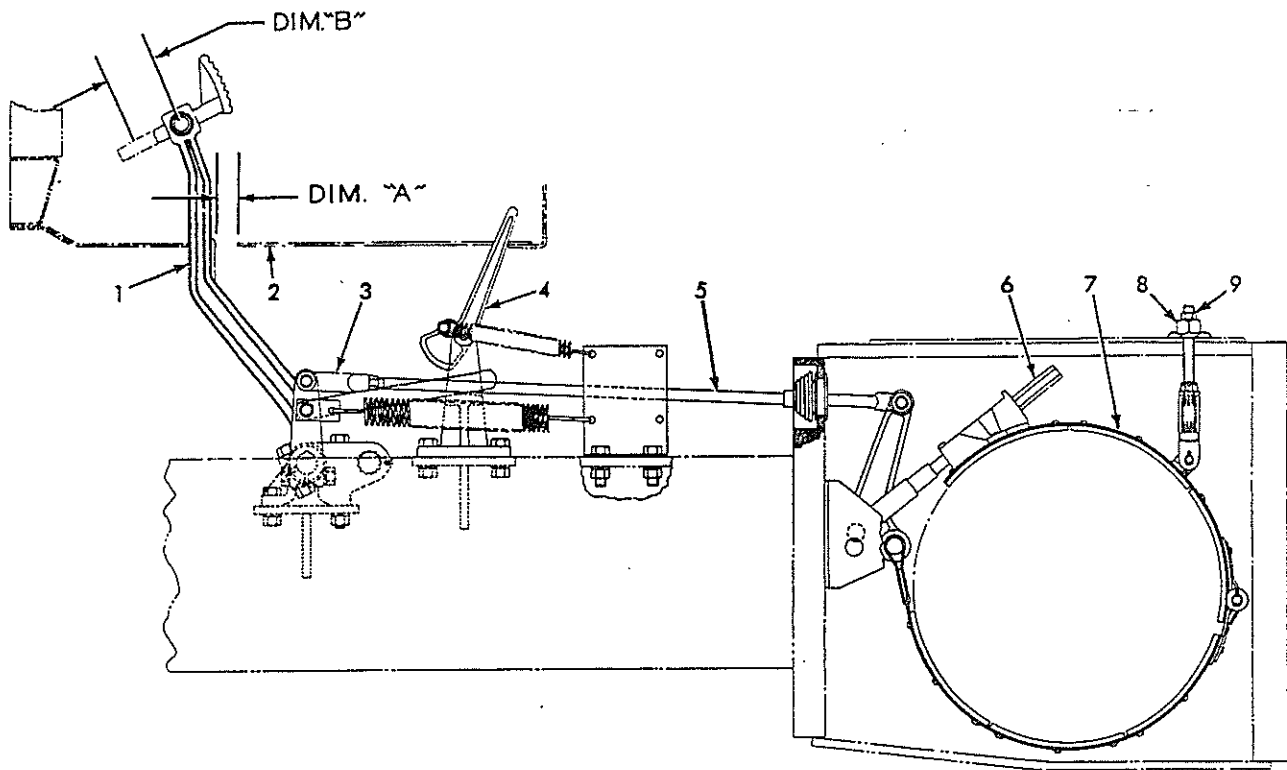

Fig. 24 -- HD11 Brake Linkage
a. Refer to Fig. 24 and adjust length of brake control rod (5) to obtain DIM. "A" 1/16" (HD11G, GC 1-9/16") floor plate to brake lever clearance.
c. Loosen jam nut, Fig. 24 (9) and band sup-